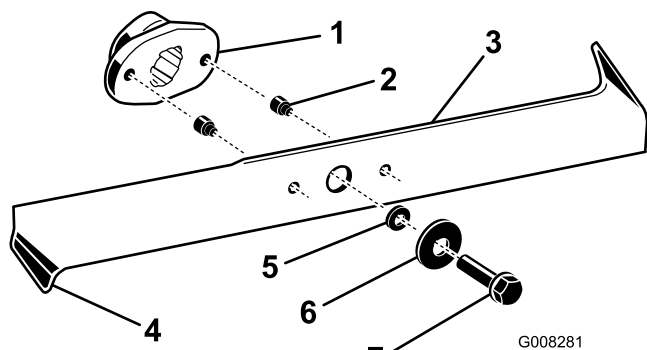

Figure 35
2. Inspect the cutting edges (Figure 35). If the edges are not sharp or have nicks, remove the blades and sharpen them; refer to Sharpening the Blades.
3. Inspect the blades, especially the bent edges (Figure 35). If you notice any wear or damage in this area, immediately install new blades.
4. If the shear pins are broken, replace them immediately (Figure 35).
3. Remove the bolts, washers, and blades (Figure 35). Wedge a block of wood between each blade and the mower to lock the blade when you are removing each bolt.
1. Install the blades, washers, and blade bolts (Figure 35).